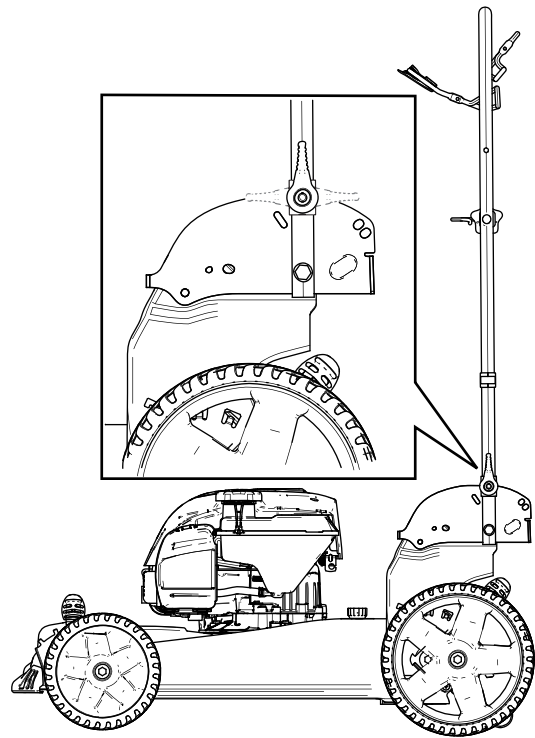

Figure 22
3. Fold the handle forward either to the vertical position or the fully forward position as shown in Figure 22.